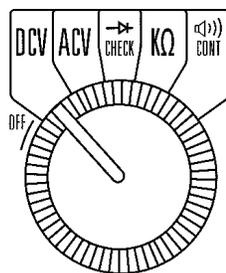

Figure E1.1:
5. Lower the salt bridge into position so that one end of the U-tube is immersed in the lead (II) nitrate solution and the other end is in the zinc sulfate (see Figure E1.1).